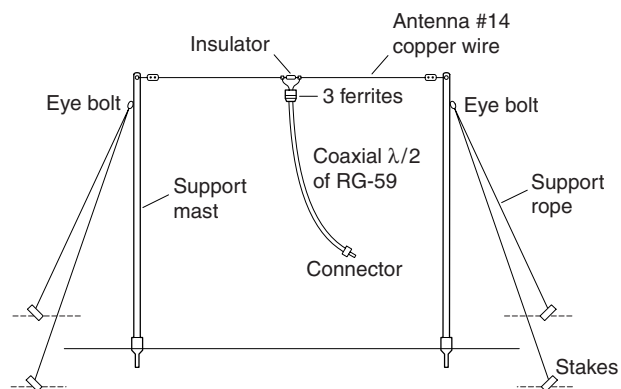
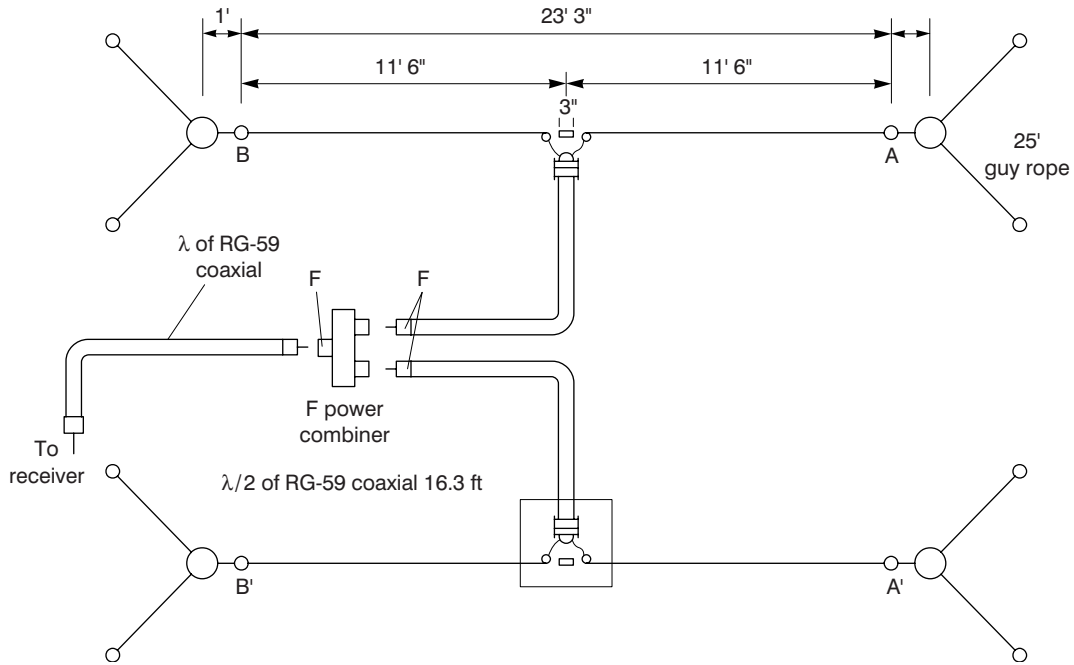

Figure 22-6 Basic dipole antenna diagram. Courtesy Wes Greenman, Charles Higgins
Figure 22-7 Antenna combiner diagram. Courtesy Wes Greenman, Charles Higgins
The antenna intercepts weak electromagnetic waves that have traveled some 500 million miles from Jupiter to the Earth or 93 million miles from the Sun. When these electromagnetic waves strike the wire antenna, a tiny radio frequency (RF) voltage is developed at the antenna terminals. A basic dipole antenna is shown in Figure 22-6. The recommended antenna for the Jupiter Radio Telescope is the dual dipole shown in Figure 22-7. Signals from each single dipole antenna are brought together with a power combiner via two pieces of coaxial cable. The output of the power combiner is delivered to the receiver by another section of coaxial transmission line. The antenna system requires a fair-sized area for setup: minimum requirements are a 25 × 35 ft. flat area that has soil suitable for putting stakes into the ground. As the antenna system is sensitive to noise it is best not to set it up near any high tension power lines or close to buildings. Also for safety reasons, please keep the antenna away from power lines during construction and operation. The best locations are in rural settings where the interference is minor. Since many of the observations occur at night it is wise to practice setting up the antenna during the day to make sure the site is safe and easily accessible.